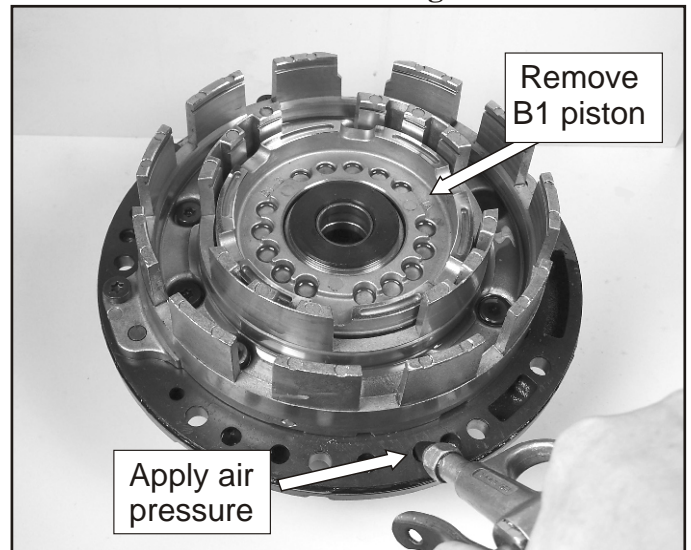

Figure 106
55. Apply compressed air to the passage shown in Figure 106 and remove the B1 piston.